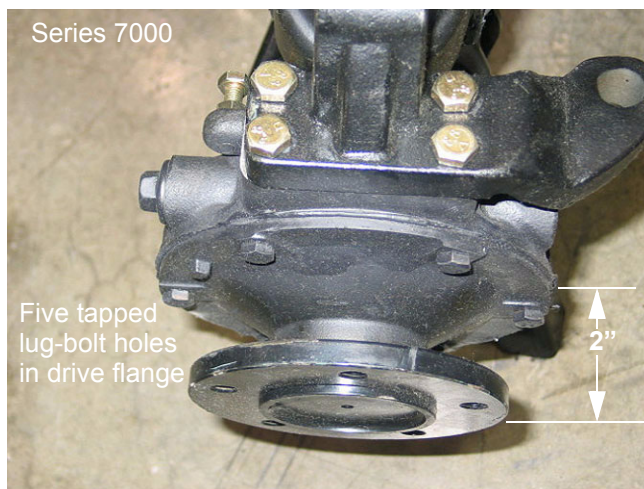

Figure 1.9
- 1.9. While the main castings are the same, the outside edge (measured at the top) of the axle flanges on the 7000 are 2" (5 cm) outboard of the seam where the axle cover meets the drop axle housing. See Figure 1.9.